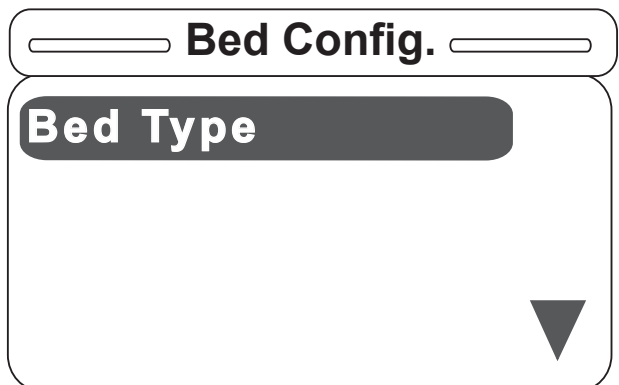

Figure S-39
- The Bed Config. menu will then only display the Bed Type menu item as shown in Figure S-39 and the user can now re-enter all the bed information starting with the Bed Type.